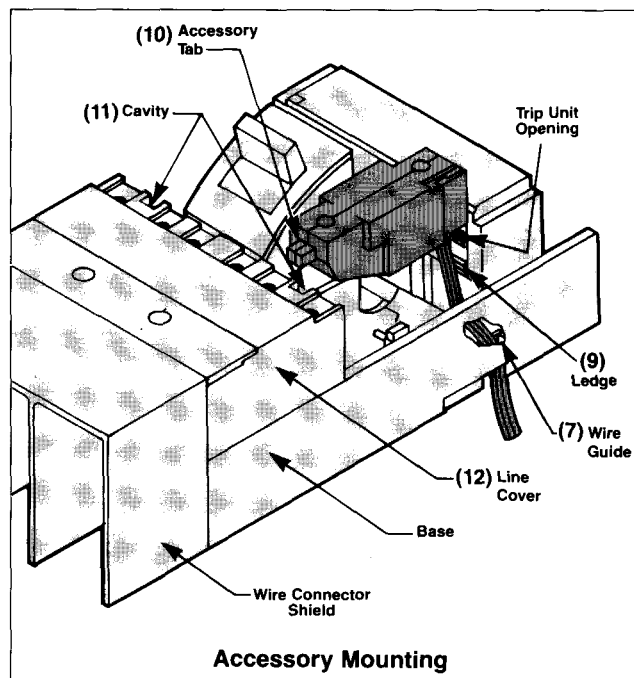
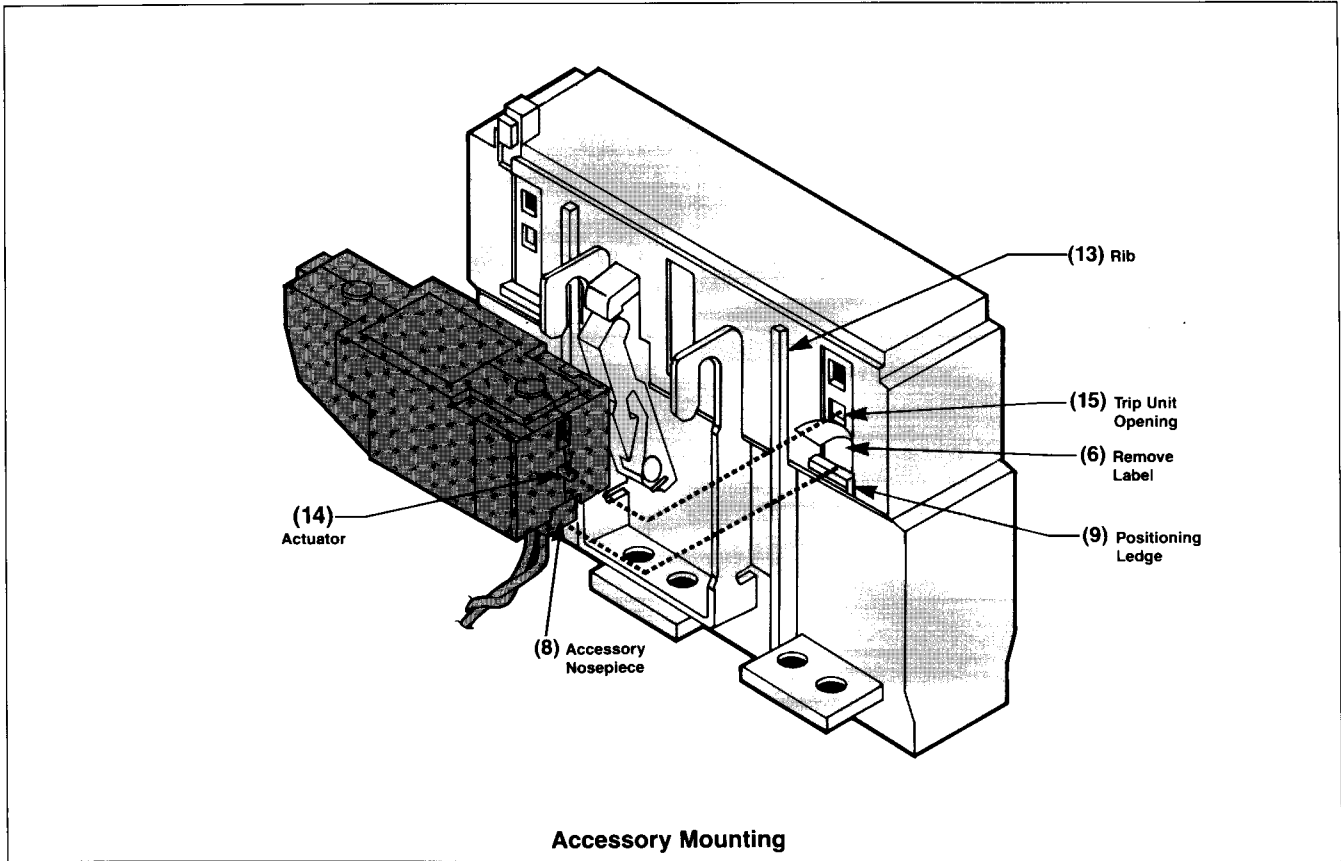

Figure 2
Figure 3
- D. Remove label (6) which covers openings in trip unit (Figure 3).
- A. Feed leads through opening at bottom of accessory case for right hand or left hand mounting in breaker. Leads should always exit accessory toward outer edge of breaker. Feed accessory leads down and through .670 x .300 in. elongated opening (7) (Figure 2) to bring leads out bottom of circuit breaker.
- B. Pull gently and evenly on accessory wire leads (2 to 9 wires) while lowering accessory onto base. Make sure all the slack is removed from leads inside breaker. Accessory is placed in circuit breaker on nosepiece (8) (Figure 3) on bottom side of accessory. Slide accessory down to rest on positioning ledge (9) (Figures 2 and 3) of trip unit.
When accessory is installed correctly, front tab of accessory (10) (Figure 2) will rest in cavity (11) of line cover (12). The inside edge of any accessory should be against the trip unit rib (13) (Figure 3) after installation.
NOTE: Do not attempt to "slide" Bell Alarm into position. Actuator (14) (Figure 3) must be inserted below top edge of center trip unit opening (15) (Figures 2 and 3) as front of accessory is lowered into cavity of line cover.